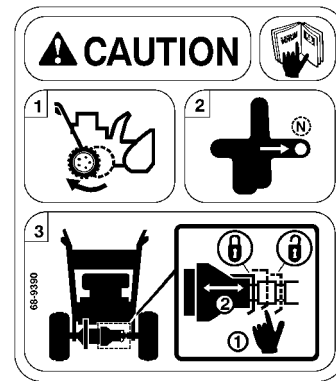

Figure 24
1. Move the wheels to the rear position (Fig. 24). Refer to *Operating the Power Shift Feature* on page 14.
2. Shift the speed shift control to the *N* (Neutral) position (Fig. 24).
3. Push lightly on the release tab of the lock spring to disengage it from the shaft groove, and slide the coupling to the desired position (Fig. 24).